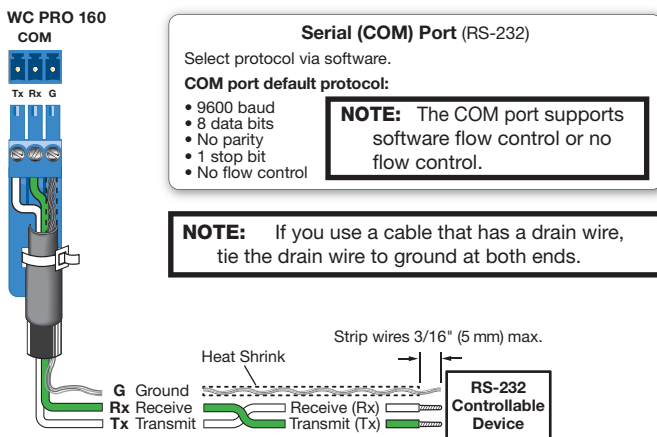

Figure 5. COM Port Wiring for RS-232 Control
- E RS-232 COM control port** — Connect this port to the serial port of a display to enable bidirectional communication and control via RS-232 (see figure 5 on page 5 to wire the COM port).